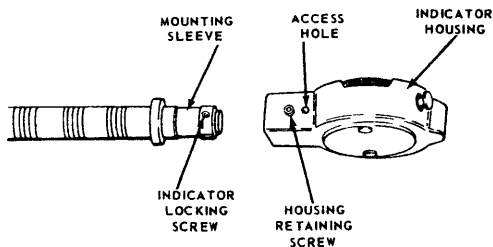

FIGURE 8
3. See Figure 8. Align Indicator Locking Screw in Mounting Sleeve with Access Hole in Indicator Housing. Slide Mounting Sleeve into Housing until Indicator Locking Screw is visible through Access Hole. Lightly tighten Housing Retaining Screw.